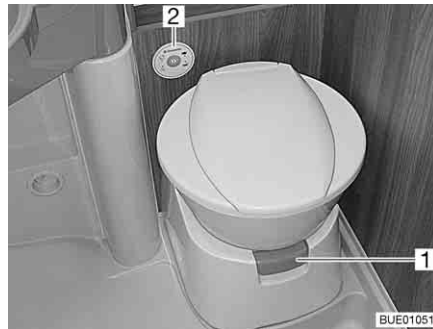
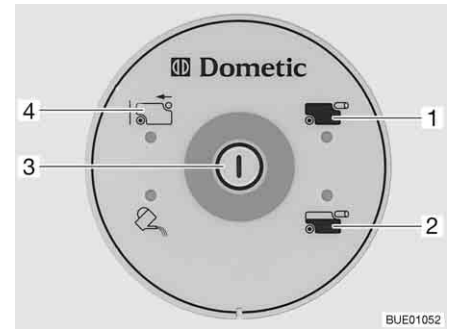

Fig. 249 Toilet bowl with control and operating unit
Fig. 250 Control and operating unit toilet
Let some water run into the toilet bowl before using the toilet. In order to do so press the flush button (Fig. 250,3) on the control and operating unit (Fig. 249,2).
- Before flushing open the sliding trap of the toilet. For this pull out the slide lever (Fig. 249,1).
- For flushing, press the flush button (Fig. 250,3).
The indicator lamp (Fig. 250,2) goes on whenever the sewage tank is filled up to 3/4.
The indicator lamp (Fig. 250,1) goes on whenever the sewage tank has to be emptied.
The indicator lamp (Fig. 250,4) lights up whenever the sewage tank is withdrawn.